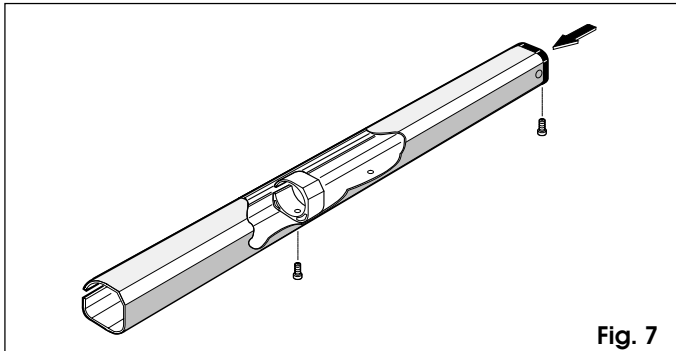
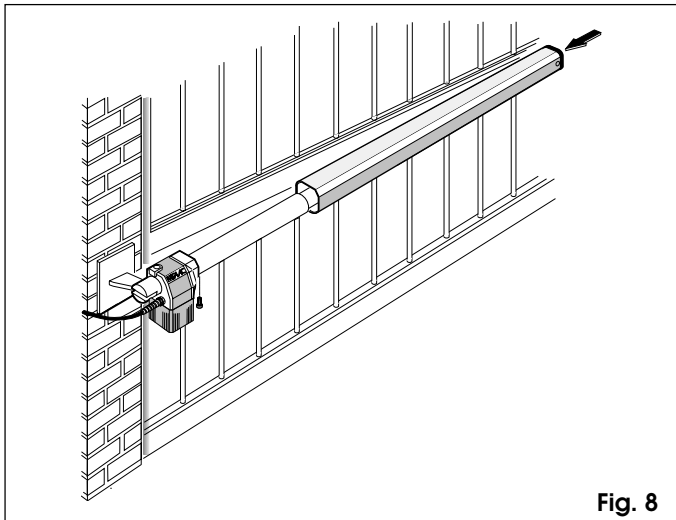

Fig. 7
Fig. 8
12) Fit the cover (fig. 7) on the operator as shown in fig. 8.
**N.B.:** Fix the guide support of the cover on the hole furthest from the cap (fig.7).